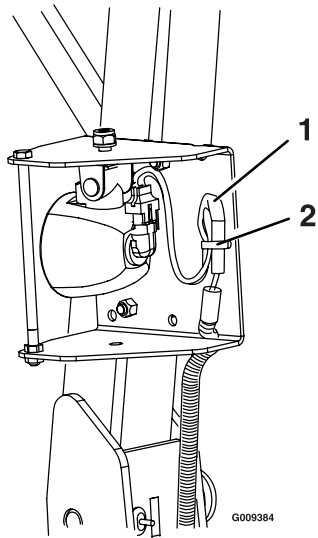

Figure 7
1. Use wire ties (item 9) to coil and secure any excess wire harness to the frame away from moving components (brake components, tires, etc.).
2. Tie wrap the connector wires on the headlight by routing it through the two holes in the main headlight bracket as shown in Figure 7.